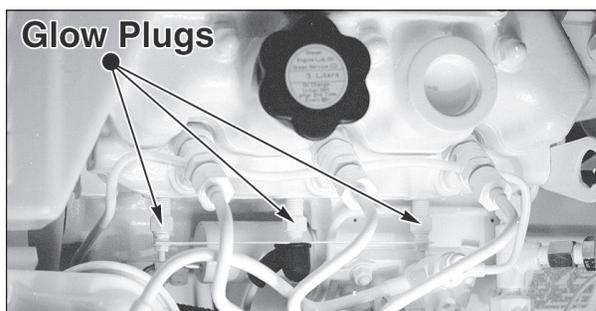

Figure 18: Glow plugs.
2. To check the glow plugs, loosen the current carrying flat wire between the plus-poles of the glow plugs (Figure 18). Connect a D.C. test bulb between the plus-pole of the battery and the plus-pole of the glow plug. If the bulb lights up, the glow plug is functioning properly.